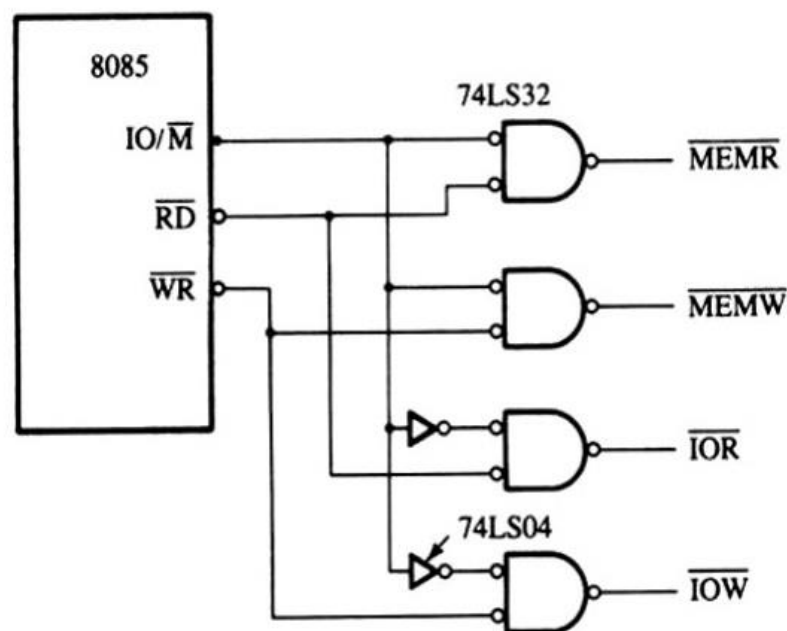

Fig.15 Schematic Diagram to generate control signals
- First of all, we required fetching the instructions place inside the memory and next we write data word on output port. According to our need we have develop the logic to generate control signals. The fig. 15 describes the combination logic of signal generation.